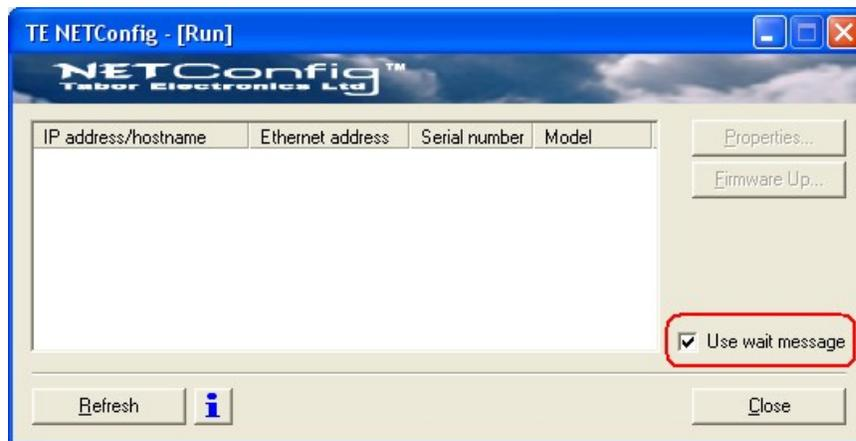

Figure 7-6, The NETConfig Utility
5. As soon as the progress bar reached the far right hand of the bar, click on the Refresh button. If your device was connected and booted correctly, the device address will appear in the device list, as shown in Figure 7-6.